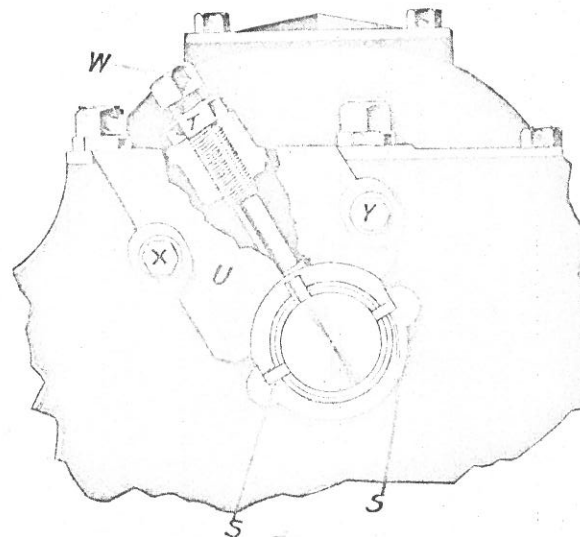

Fig. 12
Fig. 12 illustrates a side view of the crank bearings with part broken away, showing the adjusting screw (W). To remove the cap (U) loosen the set screw (W) and take out cap screws (X and Y). To adjust this box, loosen jamb nut (T), screw down the screw (W), or if worn very loose, use thinner liners at SS.